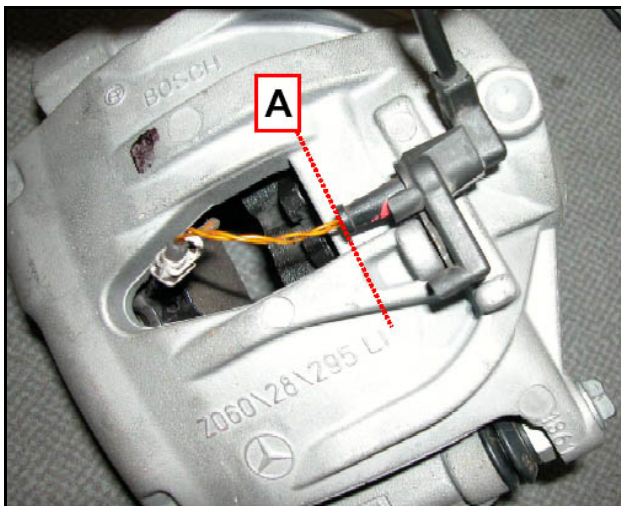
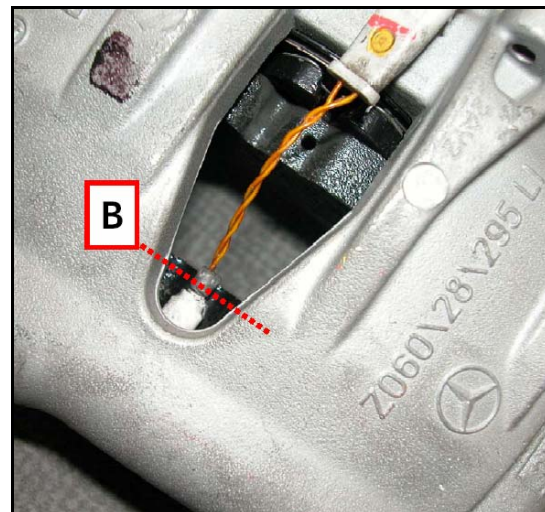

Figure 1
Figure 2
2. Using suitable cutters, cut off the wires at the 50% brake wear sensor's harness connector (Figure 1, A) and at the sensor (Figure 2, B).